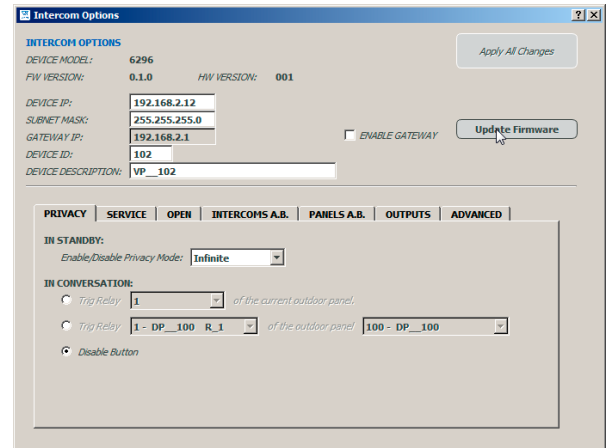

Fig. 27 Click on update firmware button
- Click the update firmware button (Fig. 27).